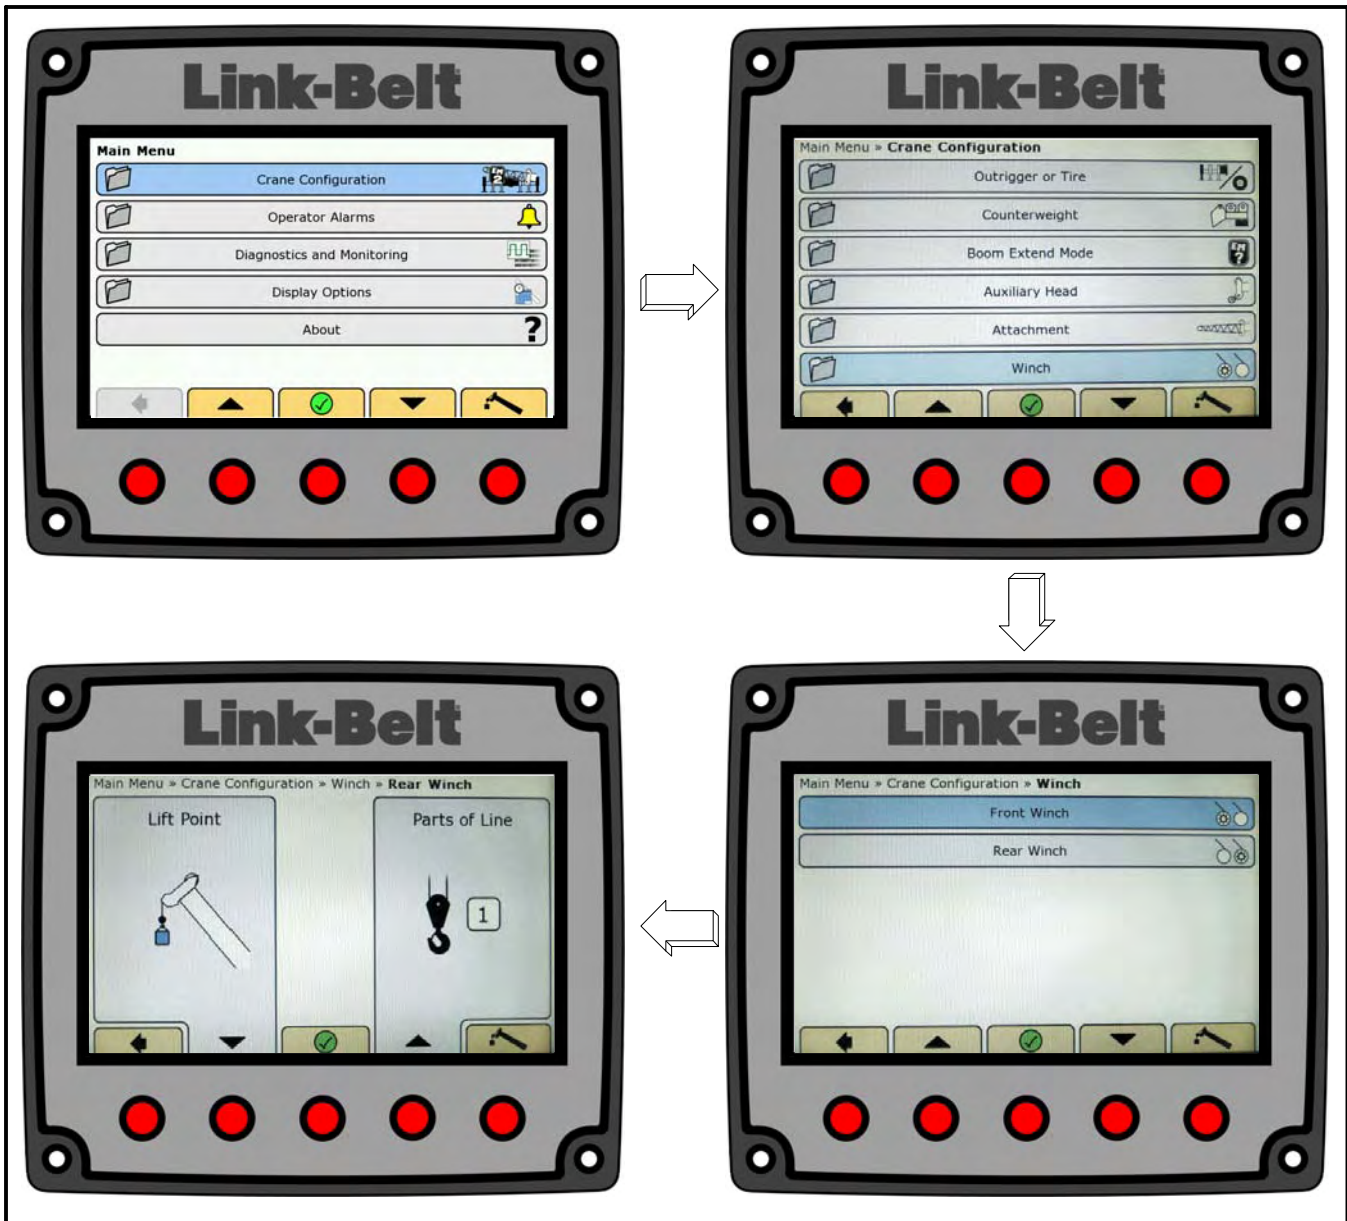

Figure 1-83
19. On the Crane Configuration menu, scroll to Winch, and press the OK/Enter button  to display the front and rear winch items. Refer to Figure 1-83.